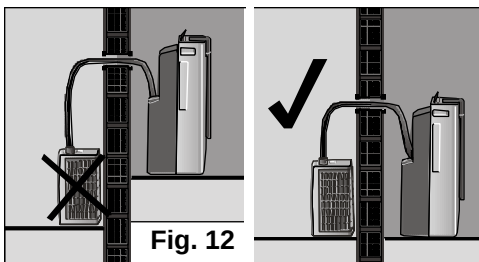

Fig. 12
- ☐ Finally, make sure that the flexible hose which joins the two units is **not crushed or restricted**, that the difference in height between the units does not exceed 1.5 m, **Fig. 11**, and that the outdoor unit is not lower than the indoor unit, **Fig. 12**.